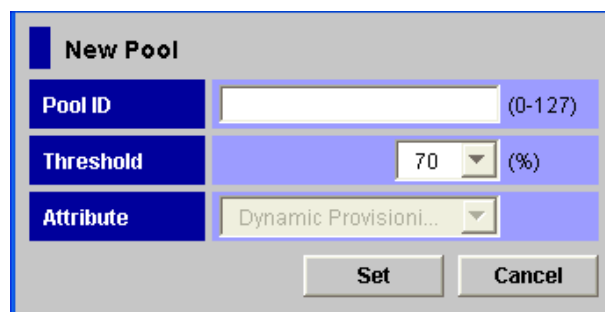

Figure 5-4 Defining a New Pool
3. In the **New Pool** dialog box (see Figure 5-4):